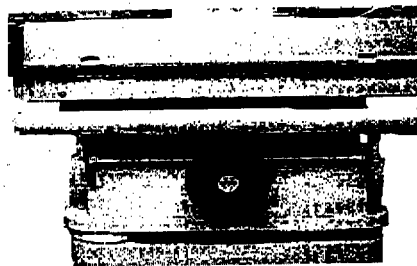

FIGURE 4.11A CHECKING THE BASSINET TILT CONTROL (VHA ONLY)
- Turn the Bassinet Tilt Control clockwise (Figure 4.11A) until the Bassinet Foot End is fully raised and comes to a stop.